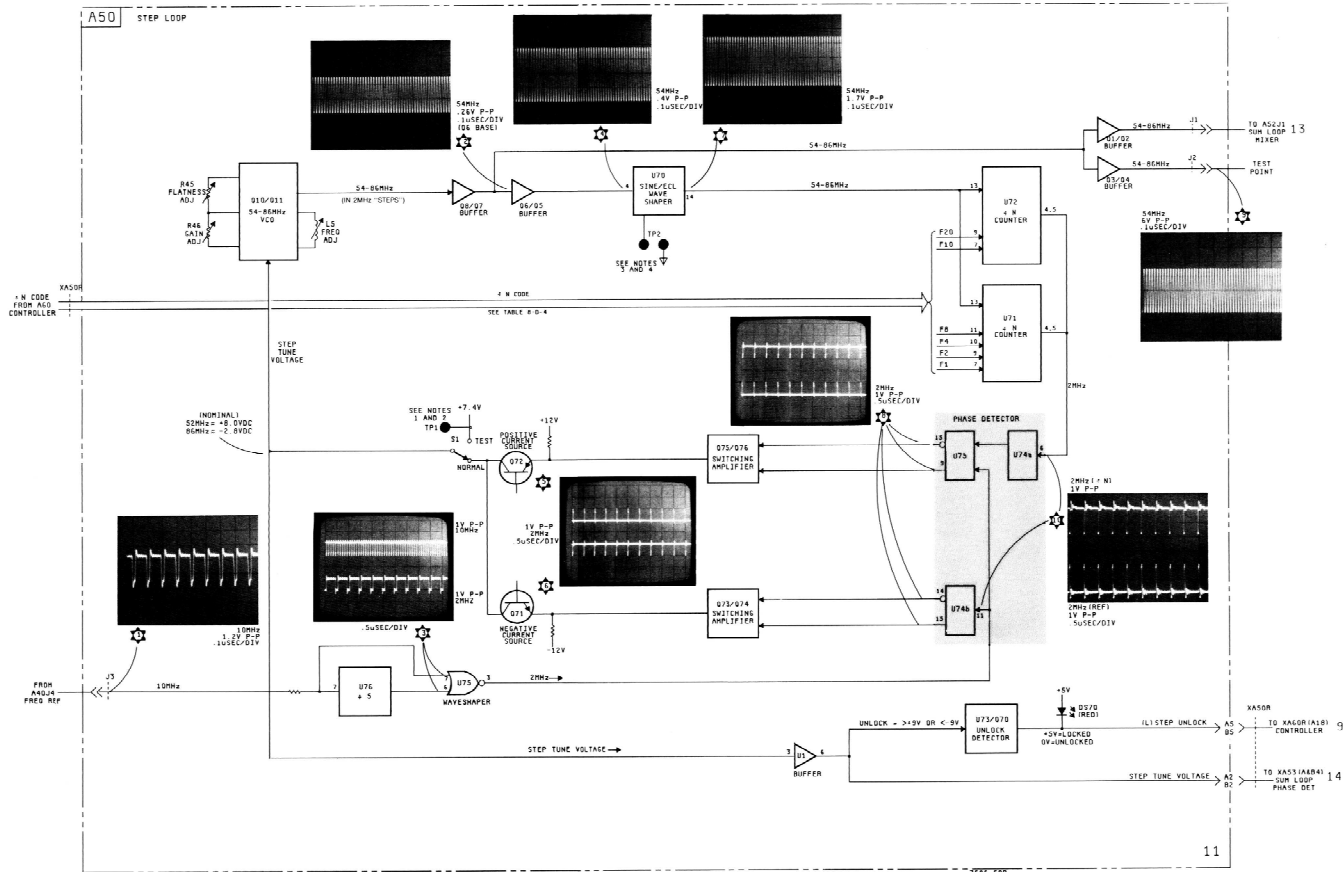

Figure 8-D-4. Functional Block Diagram - Step Loop (A50)
2. If it is not 52MHz, check A51J1 and A51J3 to eliminate the Isolation Amplifiers. If it is not 52MHz at any of the outputs and TP1 is about +7.5V, the problem is in the VCO or in Q11. There is no simple way to identify a defective VCO component. Gain what information you can from schematic voltages (Figure 8-D-5) and then replace the VCO active components, one-at-a-time, until the bad component is found.